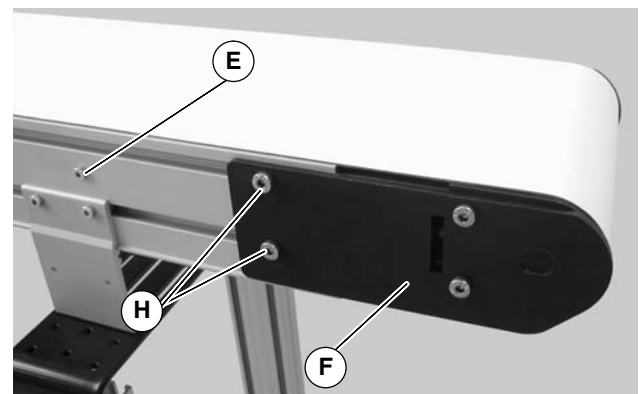
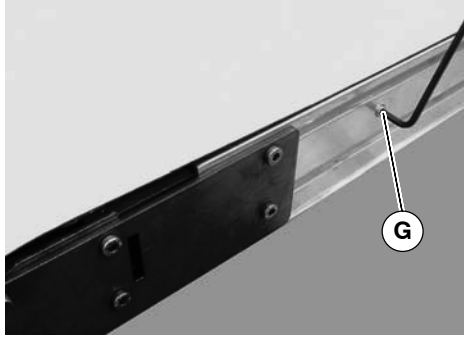

Figure 12
Figure 13
2. On tension end of the conveyor, identified by the pinion locking screw (E of Figure 12), push in head plate assembly (F): Loosen the pinion locking screw (E), adjust the pinion torque screw (G of Figure 13). On both sides of conveyor, loosen the two tail clamp bolts (H of Figure 12), and push head plate assembly (F) inward.